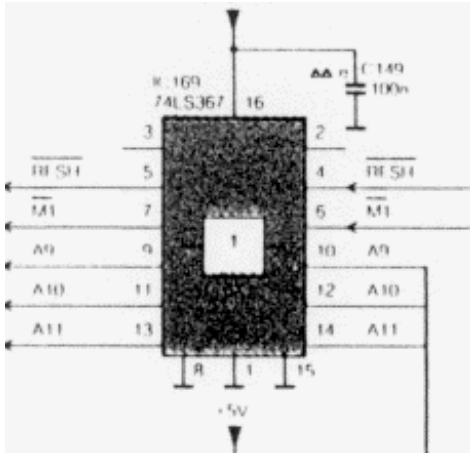

Figure 2: free buffer in IC 169
13. Run a wire from pin 28 of the S3527 SLTSL31 to pin 11 of the new IC143 and from pin 11 to pin 2 of IC169 (74LS367, see figure 2)